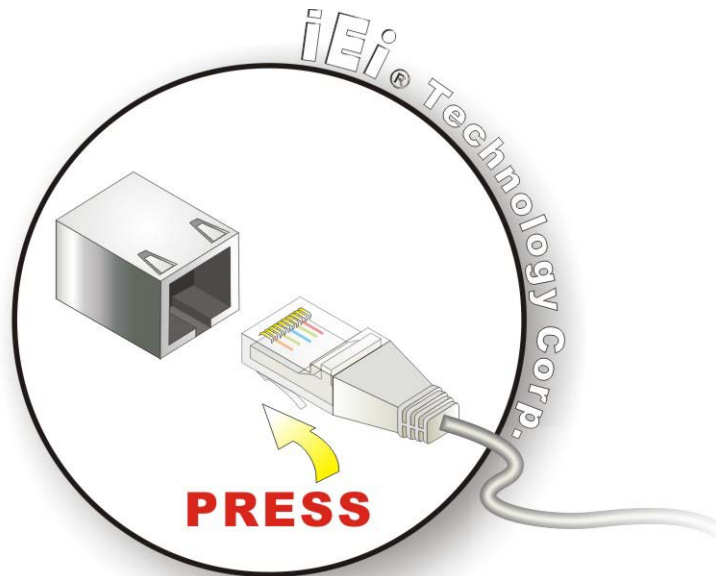

Figure 4-27: LAN Connection
Step 2: **Align the connectors.** Align the RJ-45 connector on the LAN cable with one of the RJ-45 connectors on the AFL2-W21A/AB-H61. See **Figure 4-27**.